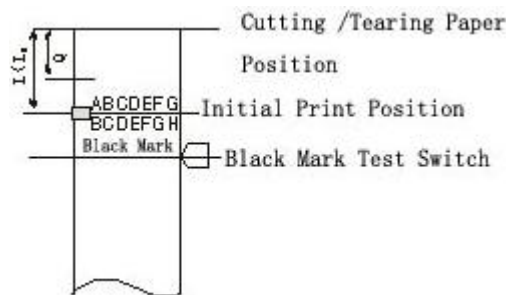

Fig 2
2. When the distance  $L$  from black mark print position to cutting/tearing paper position is smaller than the mechanical value of the printer  $L_0$  (as Fig. 2 shows), the offset of cutting/tearing paper position commanded by GS ( F is calculated as: the offset of tearing paper position  $= (L_0 - L) / 0.176$  (dots number)